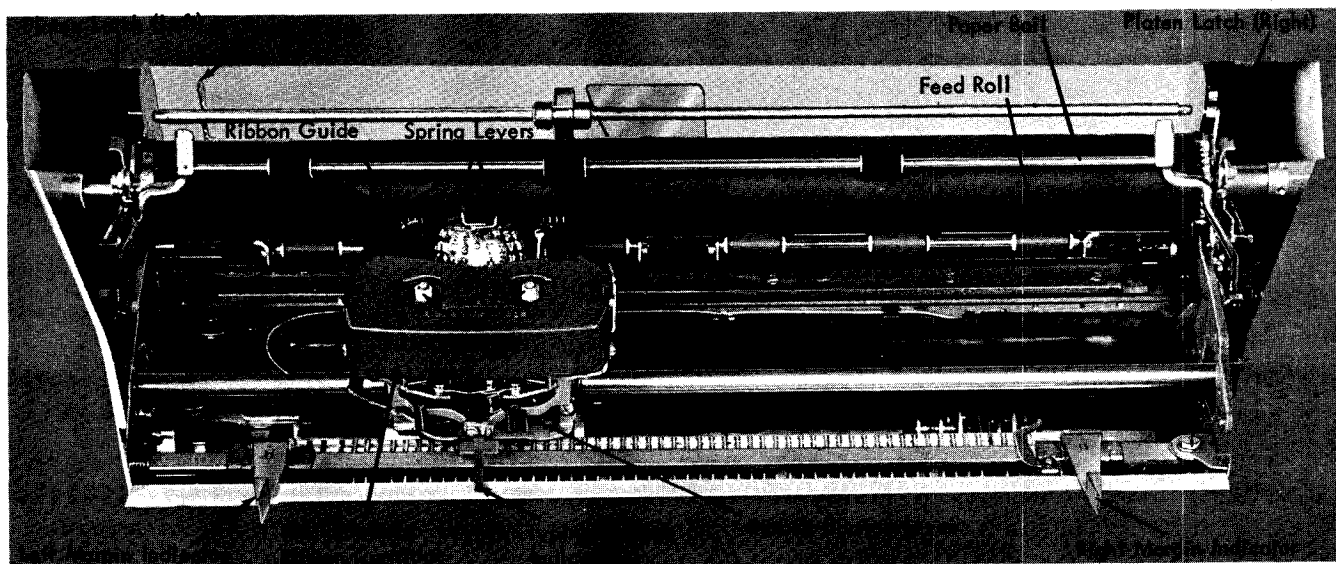

Figure 7. Selectric Carrier and Platen Controls
This lever permits the operator to manually reverse the direction of the ribbon before the end of the ribbon. The ribbon automatically reverses when either end of the ribbon is reached. This black lever is located directly below the center and slightly in front of the ribbon cartridge. (See Figure 7.)
4. Press the platen latches at both ends of the platen assembly (Figure 7) and lift the platen out.